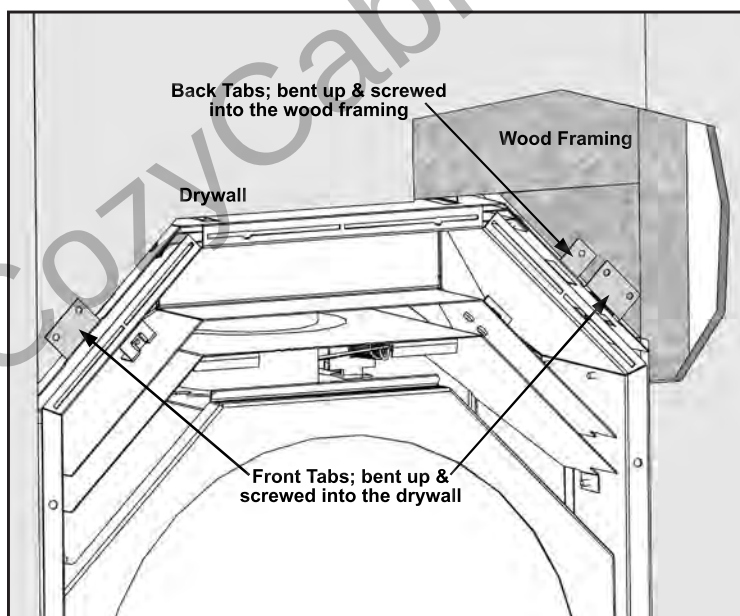
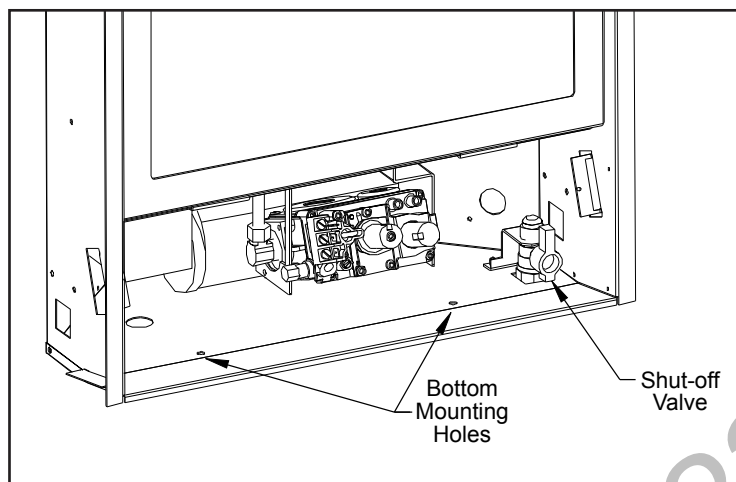

Figure 23. Top Mounting brackets.
Figure 24. Bottom Mounting Holes.
The Retreat can be secured to the framing and the flooring. At either side of the top there are two (2) brackets with holes for screws or nails (Figure 23); the back tabs are to mount to the wood framing and the front ones are to mount to the drywall. At the bottom there are two (2) mounting holes in the unit base below the firebox, which allows for screws or nails to mount to the floor (Figure 24).